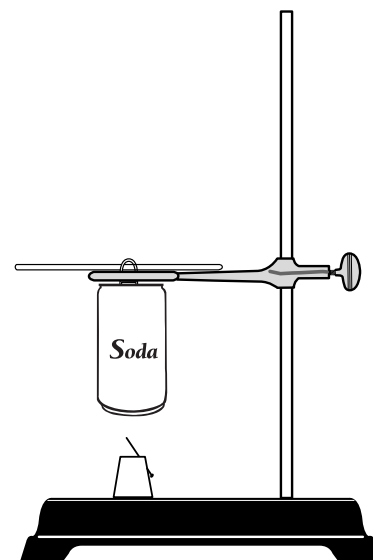

Figure 2.
4. Bend the tab on the soda can and slide a glass stirring rod through the hole. Suspend the can on a support stand using a metal ring (see Figure 2). Adjust the height of the can so that it is about 2.5 cm above the food holder.